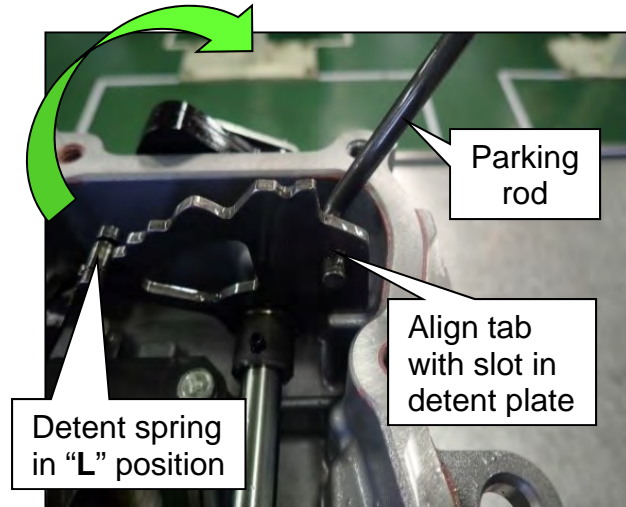

Figure 178
- a. Rotate the detent plate until the detent is in the “L” position, as shown in Figure 178.